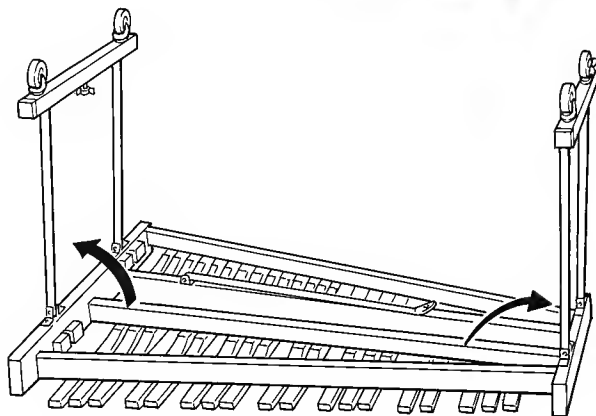

Fig 2
- 2 Make the left and right legs stand. (Fig 2)